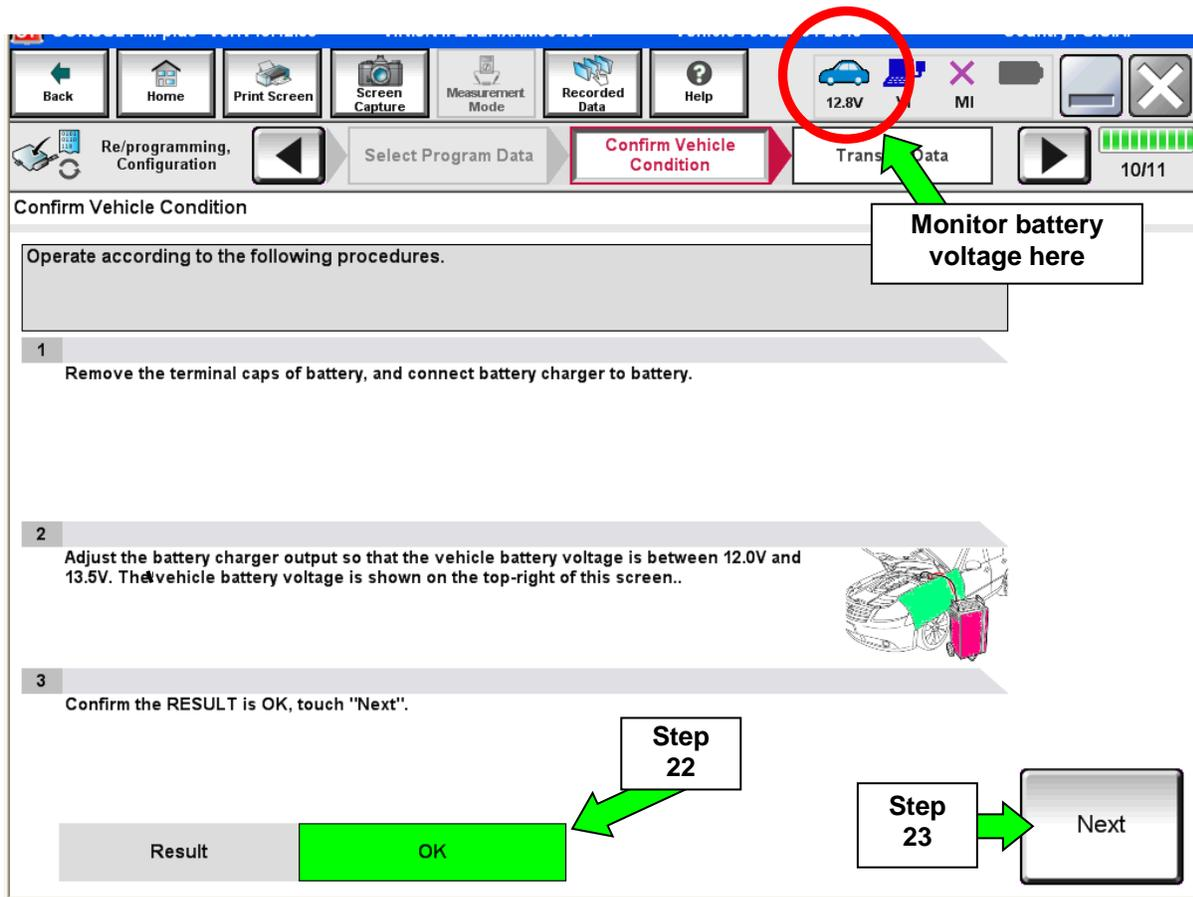

**Figure 12**
- If more than one new P/N is available, the screen in Figure 12 displays.